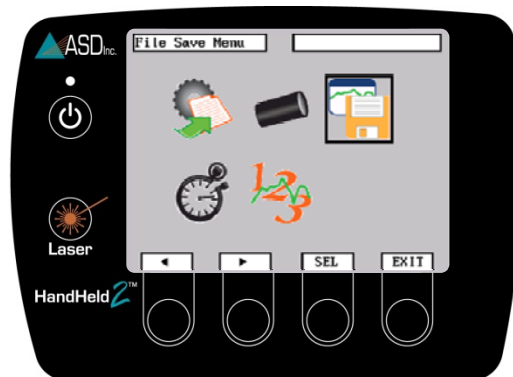

Figure 2-24: Navigate to File Save Icon
- Step 1 Navigate to the File Save Menu icon and press the *SEL* button (Figure 2-24).